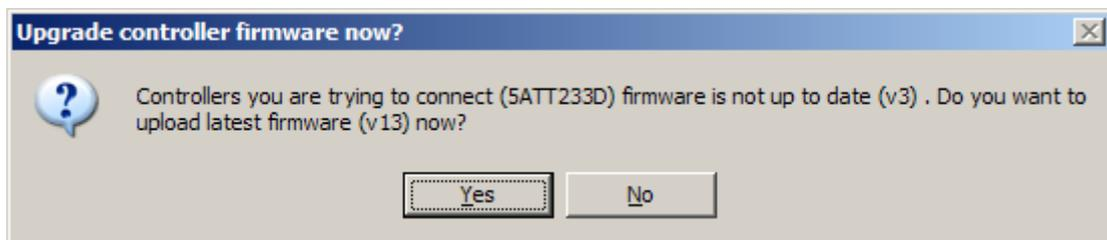

Figure 26. Dialog, asking whether to update firmware.
1. Answer “Yes” when asked about update dialog is shown in Figure 26. “Firmware Upgrade” window will appear. Click “Upgrade Firmware” button: